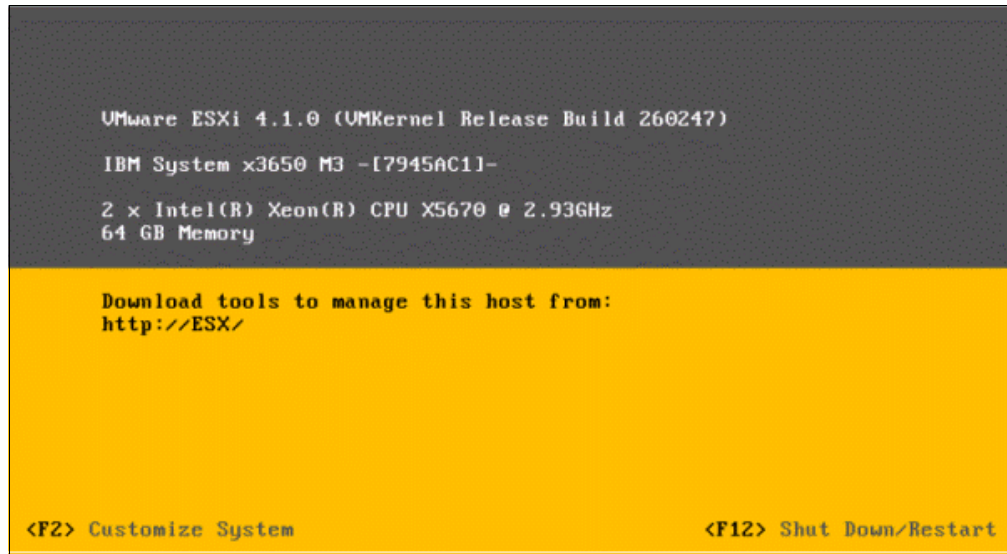

Figure 5-90 Booting VMware ESXi 4.1.0
5. After reboot, the host should boot from the volume designated on Storwize V7000 storage, as shown in Figure 5-90.